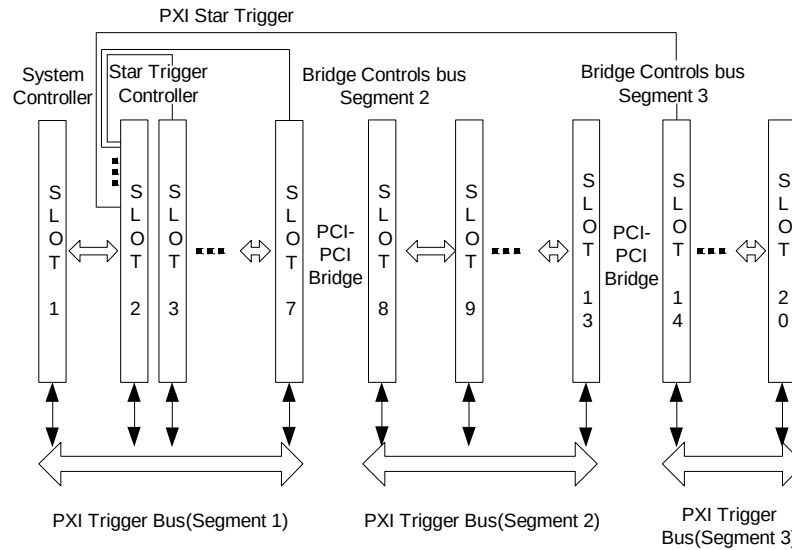

Figure 2-14: PXI Trigger Architecture
Slot 2 is the Star Trigger (ST) Controller slot (2nd from the left). This slot has a dedicated trigger lines going to slots 3 through 15. The Star Trigger is used to synchronize between 14 instruments and it utilizes back plane traces that are of equal length, providing for a skew of less than 1nSec between slots. If you do not need a Star Trigger Controller, any PXI or cPCI instrument can be used in this slot. See Figure 2-14 in this chapter for more information about the available trigger architectures.
The GX70xx models have eighteen peripheral slots located in slots #3 through #20 as shown in Figure 2-14.
The PXI trigger bus provides connectivity only within a single bus segment and does not allow physical connection to an adjacent bus segment. This maintains the high performance characteristics of the trigger bus and allows the GX70xxA/B to partition instruments into logical groups as show in Figure 2-14. However, logical connections of the trigger bus are allowed. Under software control, the GX70xxA/B's trigger lines can be isolated or interconnected to each segment's eight trigger lines. Signal direction between segments is also controlled by software for each trigger line.